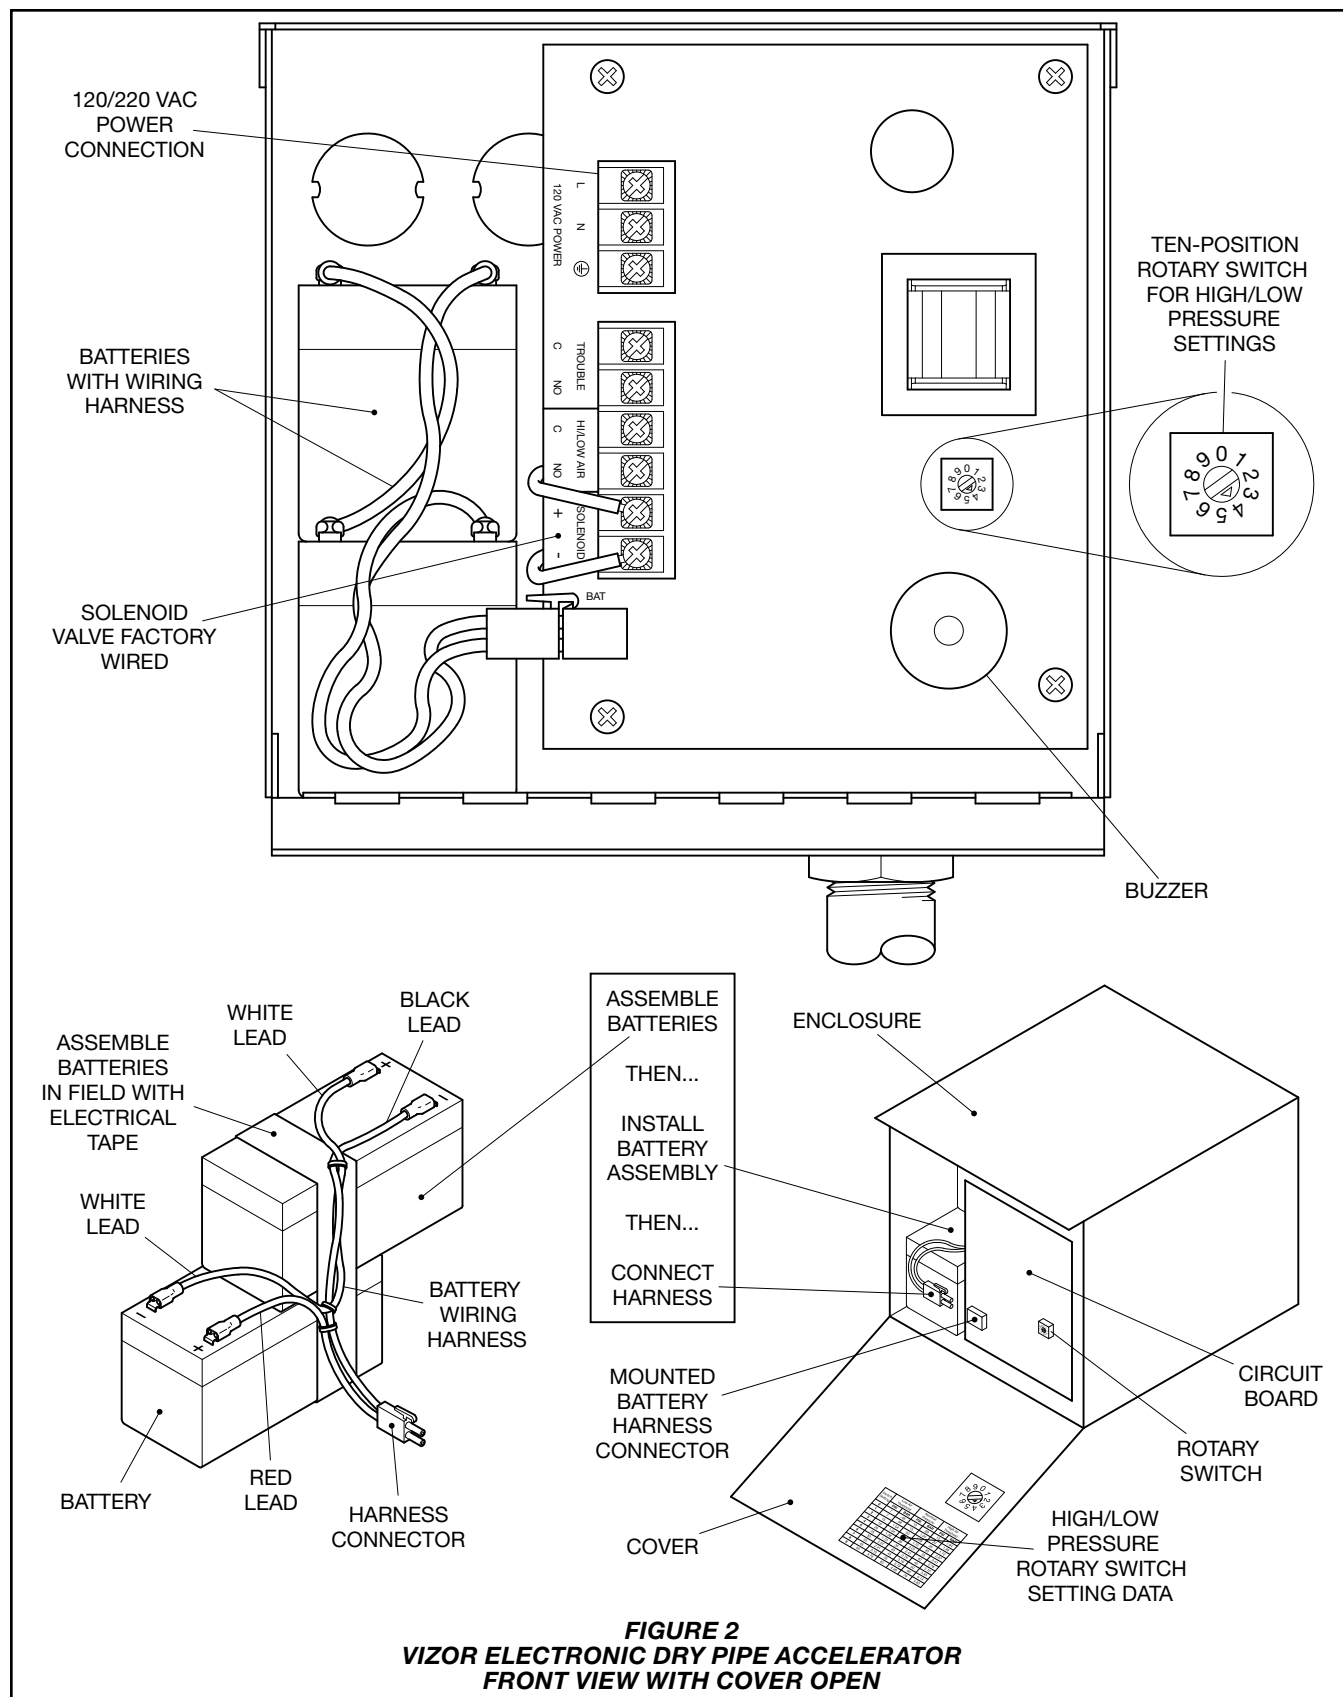

FIGURE 2
The VIZOR accelerator contains two sets of normally open, dry contacts. The high/low supervisory contacts close if the normal system air pressure in the system increases or decreases beyond a given point, see Table B. The ten-position rotary switch, see Figure 2, provides ten preset pressure settings. The factory setting is position #4 for a normal system air pressure of 30 psi.
Step 2. Following Figure 2 and Table B, set the Ten-Position Rotary Switch to the required setting using the provided screw driver.
Step 3. As shown in Figure 2, tape the 12V, 1.3 AH batteries together. Connect the harness wires (leads in Figure 2) to